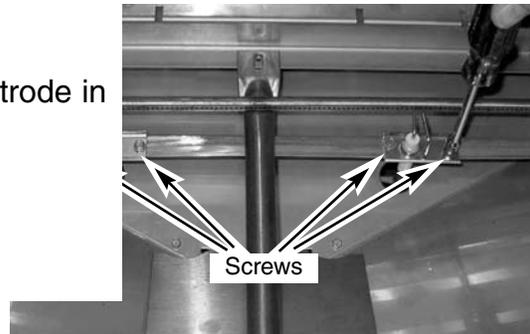

Fig 3
3. Remove the two screws holding each electrode in place (Fig. 3).